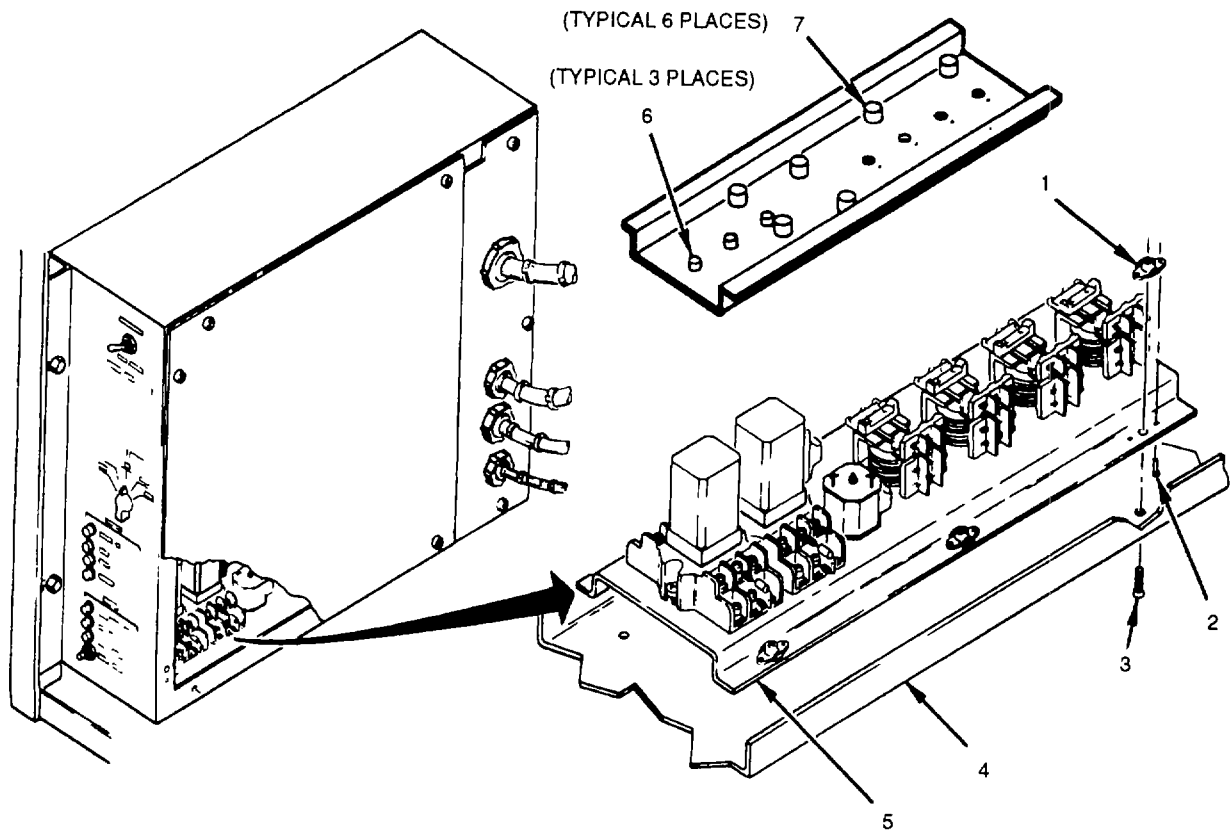

Figure 4-29. Relay Mounting Plate
- (1) Disconnect air conditioner input power at source,
- (2) Remove control box assembly (paragraph 4.27),
- (3) Remove circuit breakers (CB 1 and CB2) (paragraph 4.39);
- (4) Remove time delay relays CTR1 and TR2) (paragraph 4.41), and
- (5) Remove relay sockets (K6-K11, TR1 and TR2) (paragraph 4.42)
Inspect plate (5) for missing rivets (2) or damaged floating locknuts (1). Replace if missing or damaged (see fig. 4-29).
- a Remove six screws (3).
- b Remove relay mounting plate (5) from control box assembly (4)